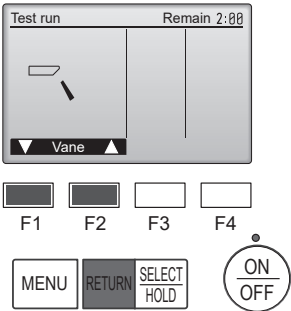

Fig. 7-6
- ① Check the auto vane with the [F1] [F2] buttons. (Fig. 7-6)
- ② Press the [RETURN] button to return to “Test run operation”.
- ③ Press the [ON/OFF] button.